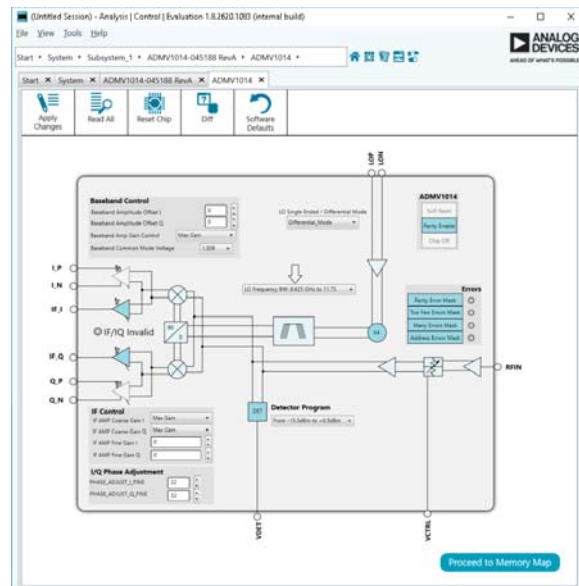

Figure 13. ADMV1014 Block Diagram in the ACE Software
7. The **ADMV1014** block diagram appears (see Figure 13).